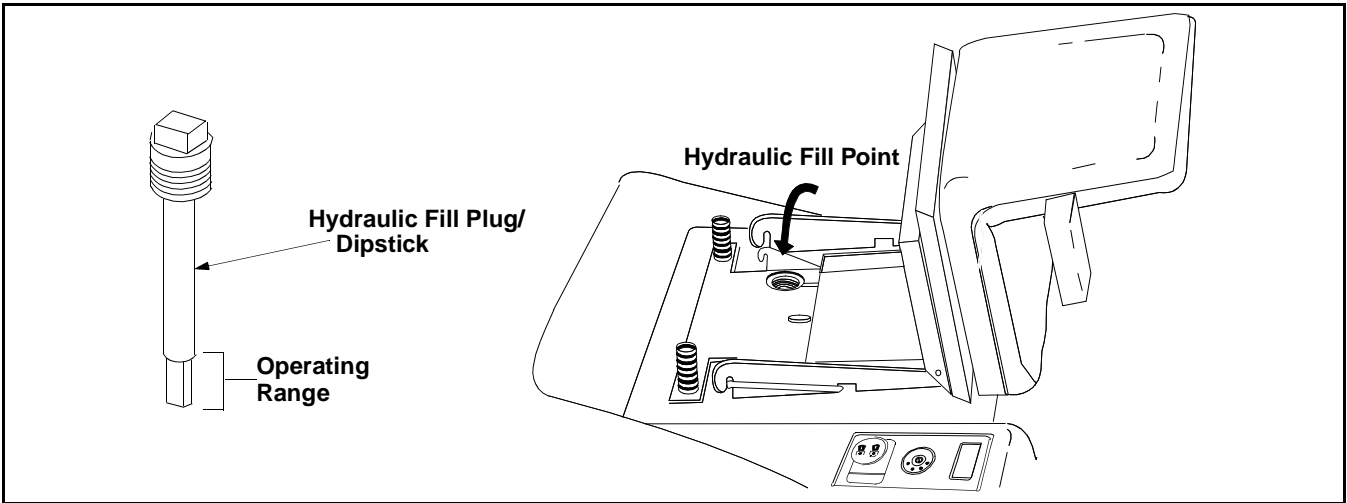

Figure 16
1. Flip seat up. (See Figure 16)
Note: When adding hydraulic oil, do so in small quantities and recheck the oil level before adding more. It is important that you do not over fill the reservoir. (See Figure 16)